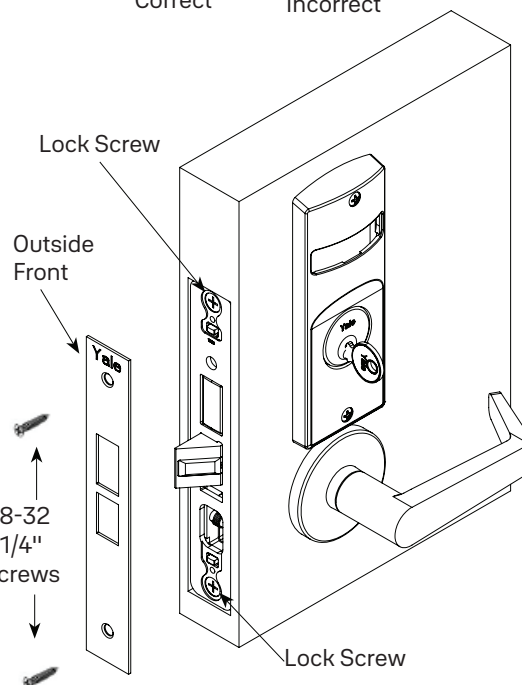

Figure 13
1. Tighten the two (2) lock screws completely: (Figure 13)
2. Attach outside front with two (2) flat head screws #8-32 x 1/4".